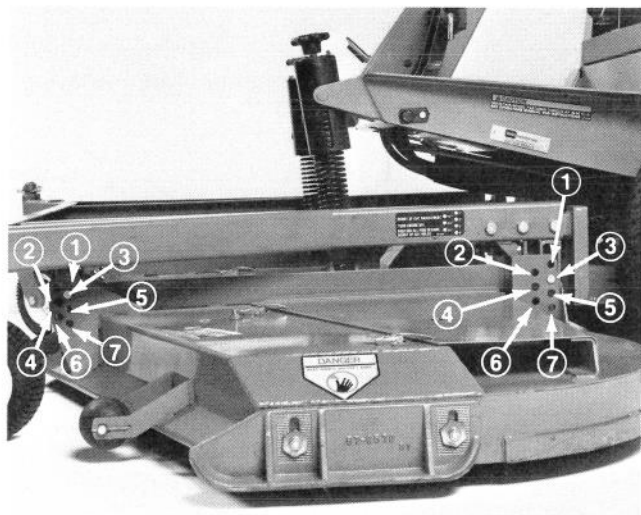

Figure 8
3. Install clevis pins through desired height-of-cut bracket holes and frame to secure cutting unit to frame (Fig. 8). Secure all four pins with hairpins.
The height-of-cut is adjustable from 1 to 4 inches (25 to 102 mm) in 1/2 inch (13 mm) increments by relocating four clevis pins in different hole locations in brackets at each corner of the cutting unit (Fig. 8).
2. Adjust skid by loosening flange nuts, positioning skid as desired, and retightening flange nuts (Fig. 8).